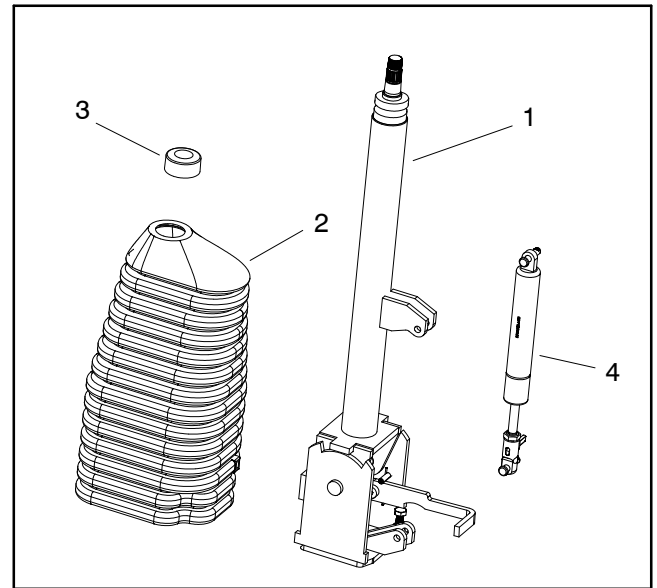

Figure 38
7. Loosen and remove three (3) flange head screws (item 13) and one (1) socket head screw (item 12) that secure steering column to steering control valve. Note location of socket head screw for assembly purposes.
9. Disassemble steering column assembly as needed using Figure 38 as a guide.